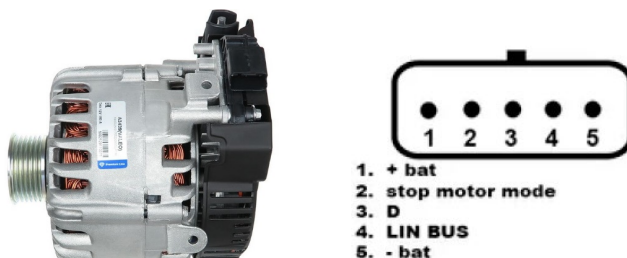

Figure 25. Valeo IST60C017: marking of terminal pins
3. Connect the tester to the alternator terminals using the MS-33501 cable according to the cable color coding (see Section 1). Alternators of the **I-StARS** type are connected using the **MS-33502** cable. A connection example is described below (see Fig. 25 and Tables 5).
As an example, Fig. 25 and Table 5 show the connection diagram for I-StARS alternators.